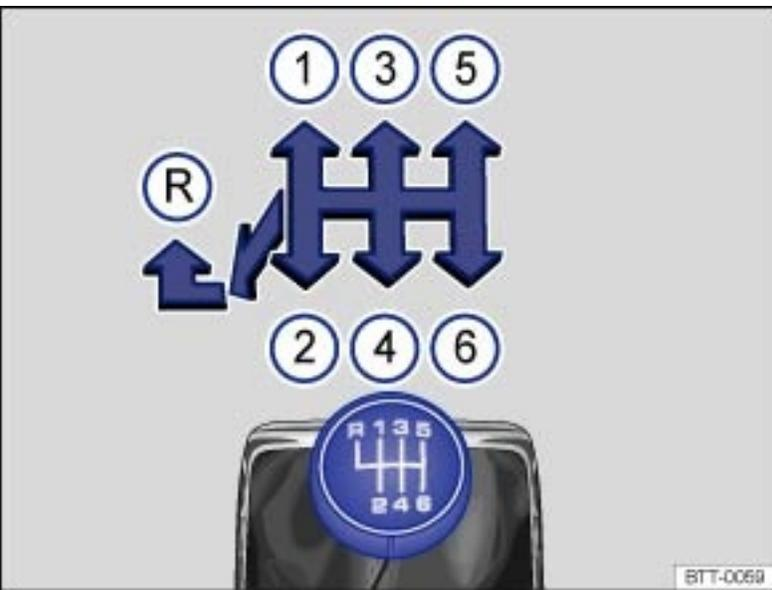

Fig. 138 Gearshift pattern of a 6-speed manual transmission.
The positions of the individual gears are shown on the gearshift lever → Fig. 138.
- › Move the shift lever to the left and then push forward into the reverse gear position → Fig. 138 ®.